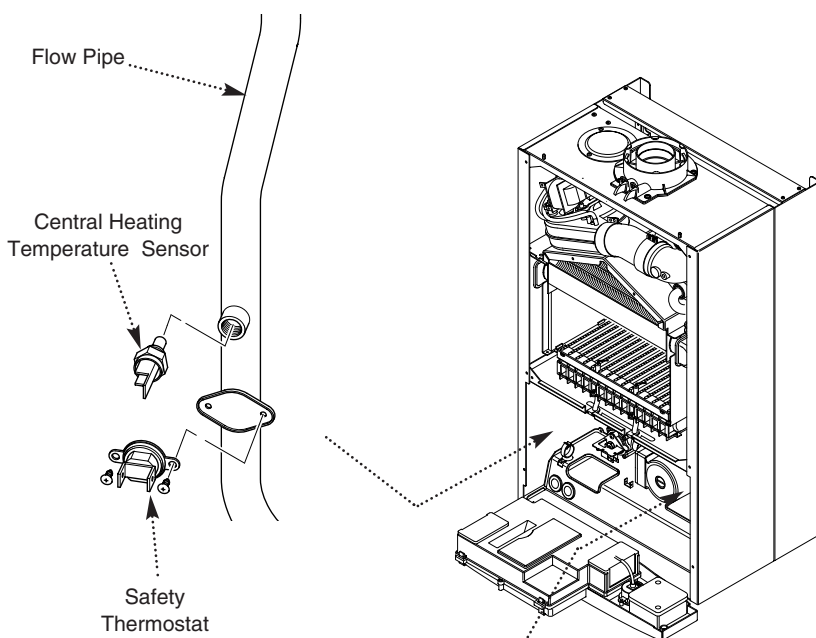

Fig. 49
12.9 Central Heating Temperature Sensor (Fig. 49)
12.10 Safety Thermostat (Fig. 49)